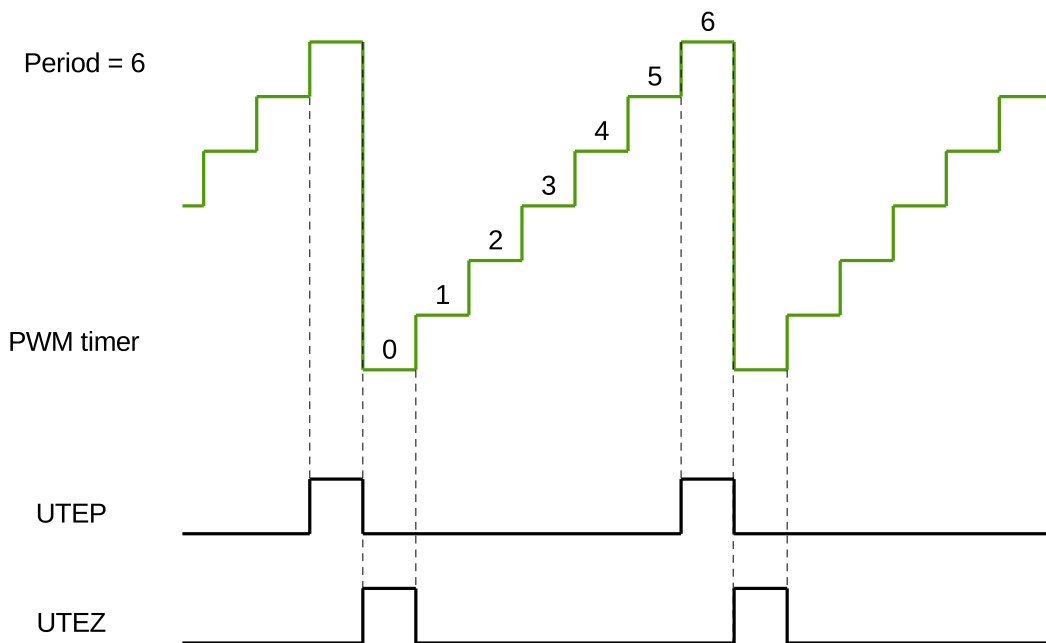

Figure 89: UTEP and UTEZ Generation in Count-Up Mode
Figures 89 to 91 show the timing waveforms of U/DTEP and U/DTEZ.
1. UTEP and UTEZ do not happen simultaneously. When the PWM timer is in count-up mode, UTEP will always happen one cycle earlier than UTEZ, as demonstrated in Figure 89, so their action on PWM signals will not interrupt each other. When the PWM timer is in count-up-down mode, UTEP will not occur.